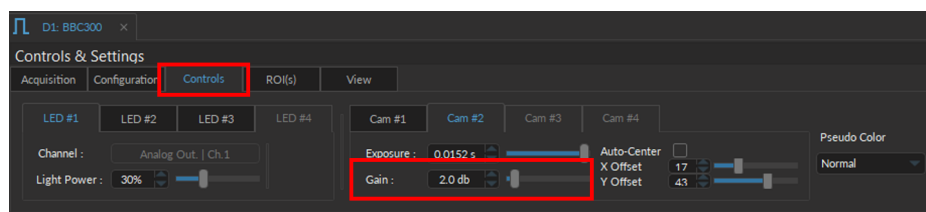

Figure 1.20: Adjusting the Gain
- Check the gain range and increase it to 2 db to see if a signal appears. To access gain settings, open **Controls** tab, and use the slider to adjust gain range (Fig 1.20).